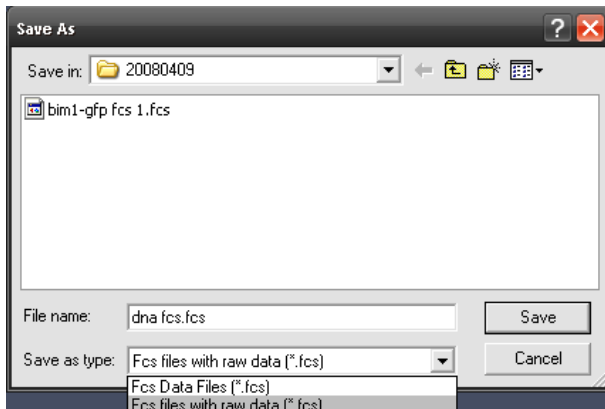

Fig. 351 Save Raw Data window
- **Save as** allows you to save the whole data set (curves, fitting results, fit parameters, raw data) to a disk. If **Save as** is pressed you will have the choice between **FCS data files (.fcs)** without raw data or **FCS files with raw data (.fcs)** attached by selecting the appropriate settings from the pull-down menu (Fig. 351).